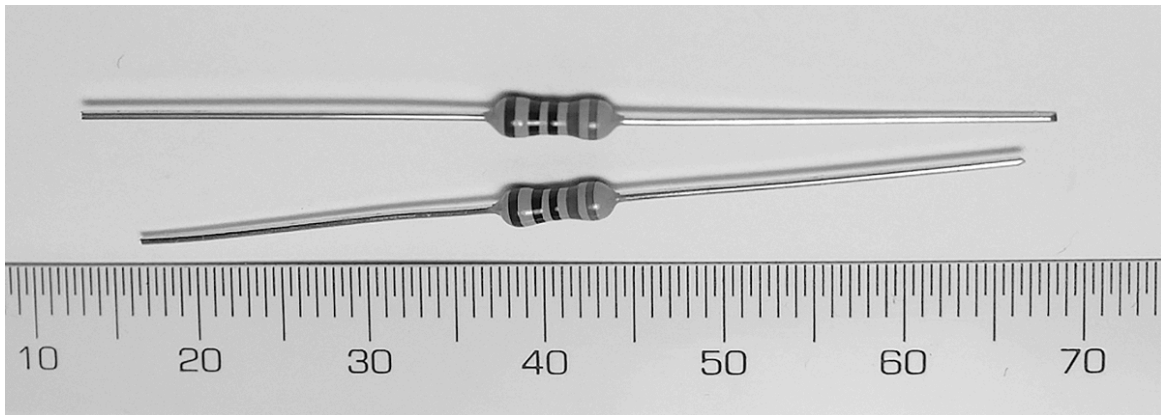

Figure 1-16: Typical resistors
Figure 1-16 shows two examples of commonly used resistors.
Resistors are very small, so their resistance values usually cannot be printed on the components themselves. One common way to show a component's resistance is with a series of color-coded bands, as shown (in grayscale) in Figure 1-16, where each color represents a numerical value. The *multiplier band* dictates the number of zeros to add to the end of the previous digits to complete the value. Resistors with five bands have a higher accuracy than four-band resistors.
A resistor's *power rating* is a measurement of the power, in watts, that it will tolerate before overheating or failing. When selecting a resistor, you need to consider the relationship between power, current, and voltage. The greater the current or voltage, the greater the resistor's power rating. For example, using the formula $\text{Power (W)} = \text{Voltage (V)} \times \text{Current (A)}$, with a voltage of 5 V and a low current of 20 mA, the power-handling value required would be $5 \times 0.02 = 0.1 \text{ W}$. This would work fine with the 0.25 W resistors that are most commonly used in the projects in this book (the resistors shown in Figure 1-16 are 0.25 W resistors).